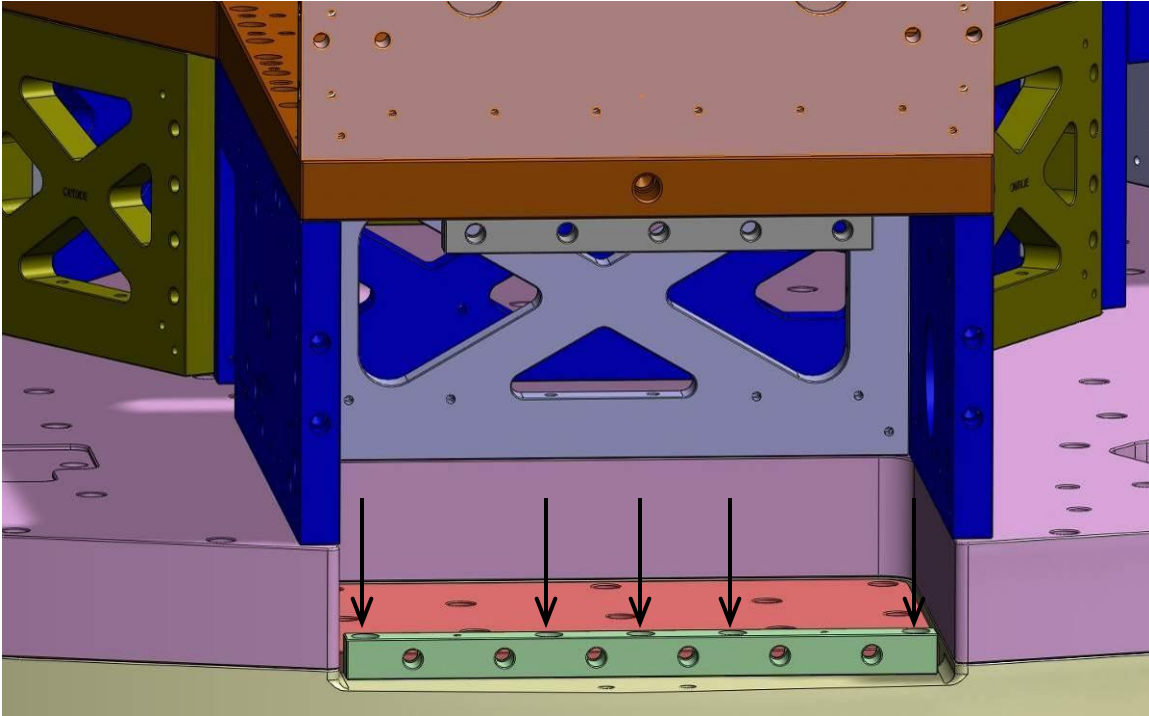

Figure 68: D0901535 Bracket, Lower Outer Wall, Bottom Installation on D0901516 Solid Optical Table
(5) 3/8 Vented Washers - UCC-WFV-38
- Locate D0901535 Bracket, Lower Outer Wall, Bottom on D0901516 Solid Optical Table with the (2) pins already installed in D091516 as shown on Figure 68. Make sure pins seat properly into mating hole and slot.
- Insert all the screws from the top, through D0901535 itself into D0901516 as shown by the black arrows on Figure 68.
- Repeat this step for the (2) other D0901535 Bracket, Lower Outer Wall, Bottom.